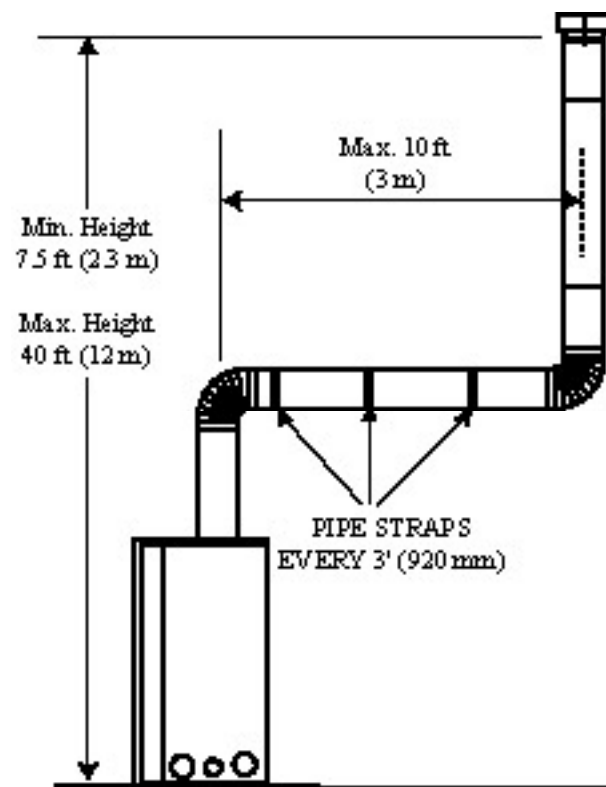

Fig. 30
- Vertical installations up to 40' (12 m) in height. Up to a 10' horizontal vent run can be installed within the vent system using a maximum of two 90° elbows. (Fig. 30)